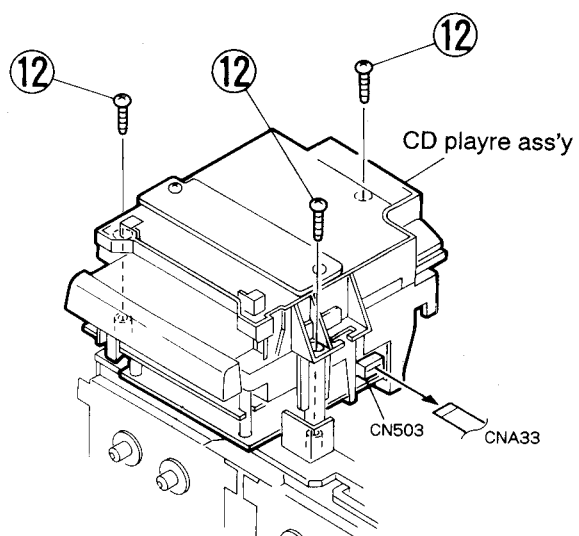

Fig. 5-11
■ How to Remove the CD Player Ass'y (Refer to Fig. 5-11)
3. Remove the three screws (12) retaining the CD player ass'y.